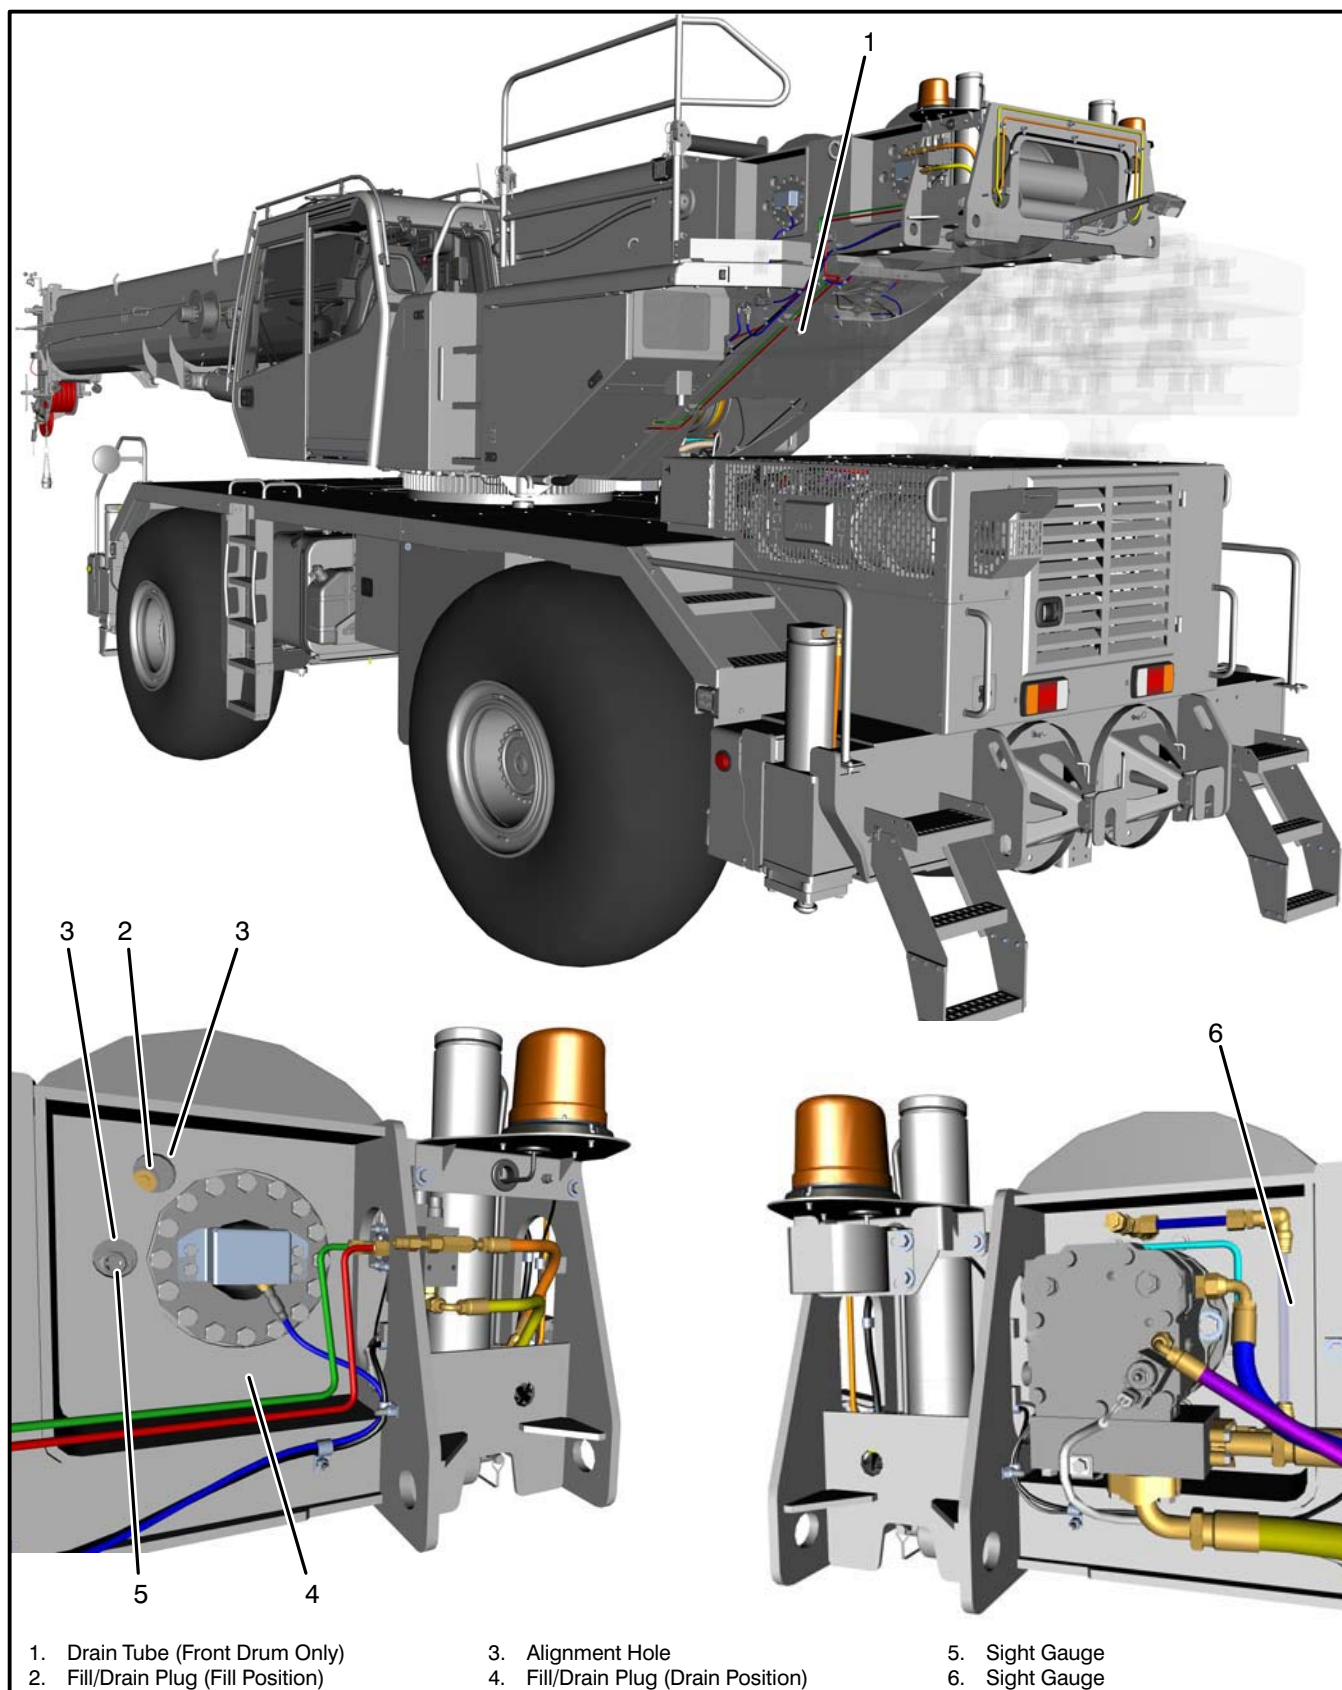

Figure 2–21
2. Engage the travel swing lock and shutdown the engine. Refer to Figure 2–20.
4. Thoroughly clean the exterior surface of the swing speed reducer around the dipstick and drain plug to prevent contamination from entering the unit. Refer to Figure 2–20.
2. Wait at least 5 minutes after the last winch drum movement to check the oil level to allow the oil to settle in the winch drum. Observe the oil level within the sight gauge. Oil should be approximately midway in the sight gauge. Refer to Figure 2–21.
3. Rotate winch drum until the fill/drain plug is aligned with the fill alignment hole in the side support. Refer to Figure 2–21.